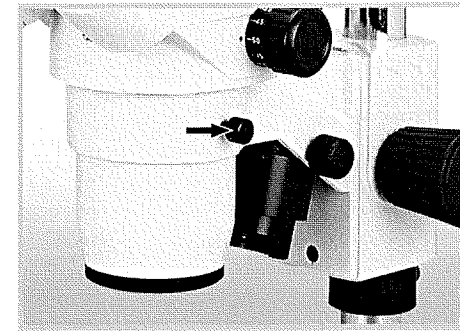

Fig.1
1. Turn the zoom knob (14) to the lowest magnification, 0.75X.
2. Place a flat object or a microscope slide on the centre of the stage (10).
3. Turn the focusing knobs (16) to mid-focus range.
4. The head holder (15) is mounted on a column (18) on which it can be moved up or down depending on the size of the object to be focused on.
- a. Support the head holder (15) with one hand without touching any lenses and with the other loosen the screw on the support collar (17). The head holder can then be slid to the base (11).
- b. Without letting go of the head, loosen the head holder locking screw. (Fig.1)